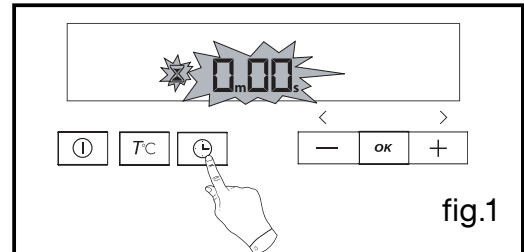

fig.1
The display flashes 0:00 to indicate that you can now adjust the setting (fig.1).
The display flashes to indicate that you can now adjust the setting (fig.1).
- Press the  button 3 times (fig.1)
when the oven is off, hold down the button **OK** for a few seconds; a “key” will then be displayed on the screen -> access to the oven controls is now blocked (fig.1).